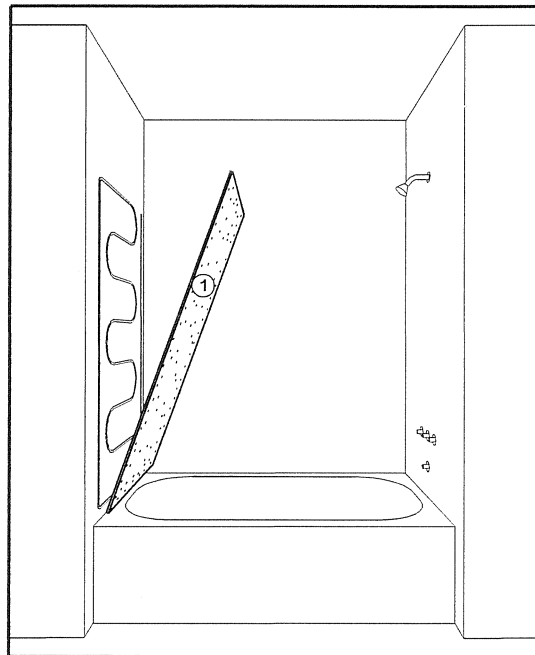
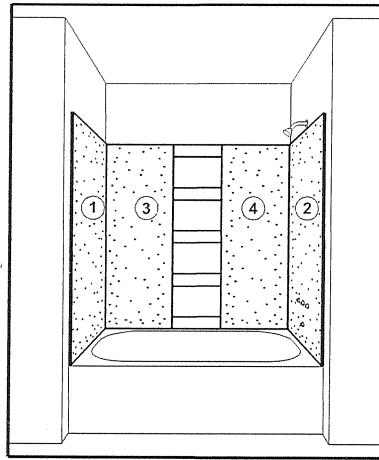
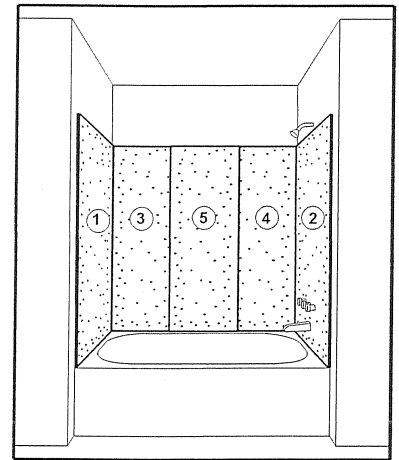

Fig. 1
Fig. 2
Fig. 3
- Step 2. Place panel (1) into position (See Fig. 1). If the gap between the right hand edge and the back wall exceeds 1/4", sand or file edge of panels to reduce gap to 1/4" maximum. With a caulking gun, apply a heavy bead (min 1/4") of adhesive to the wall (not the panel) 2" in from the side and bottom edges and on 8" centers in a zigzag pattern as shown in Figure 1. Apply an extra bead near the outer edge to provide additional support for the shower enclosure hardware. Use approximately one full tube per panel. Place panel into position and press panel firmly into place. Panel should be positioned 1/16th inch above the tub deck surface
- Step 3. Place masking tape on the finished side of panel (2) approximately in the location for the plumbing fixtures and mark the hole centerlines. Scribe a circle of the diameter required at each hole location. Drill a 1/4" diameter hole inside the circle and cut out the circle using a saber saw. Install panel (2) as described in Step 2.
- Step 4. Install panels (3) and (4) in a similar manner as described in Step 2, except that the gap at the end panel should be as small as possible (See Fig. 2 and 4).
- Step 5. Trim the (5) 1/4" x 4" pieces of plywood or hardboard to fit between panels (3) and (4) and attach to the back wall with nails and adhesive (See Fig. 2 and 5). Apply adhesive to the outside face of the wooden strips and put panel (5) in place (See Fig. 3). (Note: For 3 panel back walls skip to step 8.)